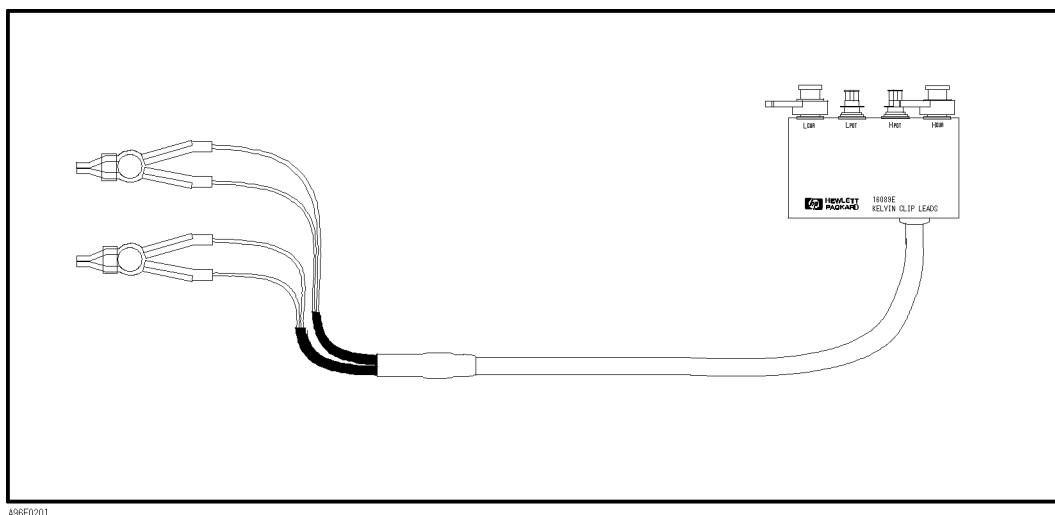

Figure 2-1. 16089E Product Overview
2. Verify that the shipping container contains everything shown in Figure 2-1 and listed in Table 2-1.
² Operation Note is not shown in Figure 2-1.